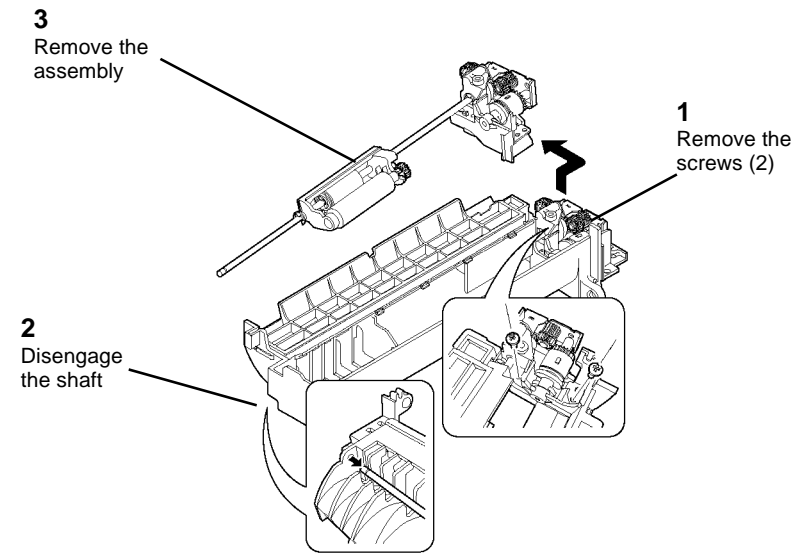

Figure 3 Removing the Feed Roll and Shaft Assembly
4. (Figure 3): Remove the Feed Roll and Shaft Assembly